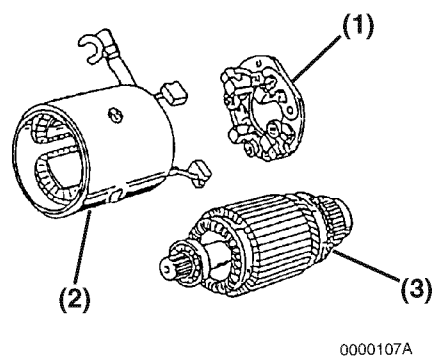

Figure 11-6
5. Remove the brush holder assembly (**Figure 11-6, (1)**) from the armature assembly (**Figure 11-6, (3)**).
6. Pull the armature assembly (**Figure 11-6, (3)**) out from the field coil assembly (**Figure 11-6, (2)**).